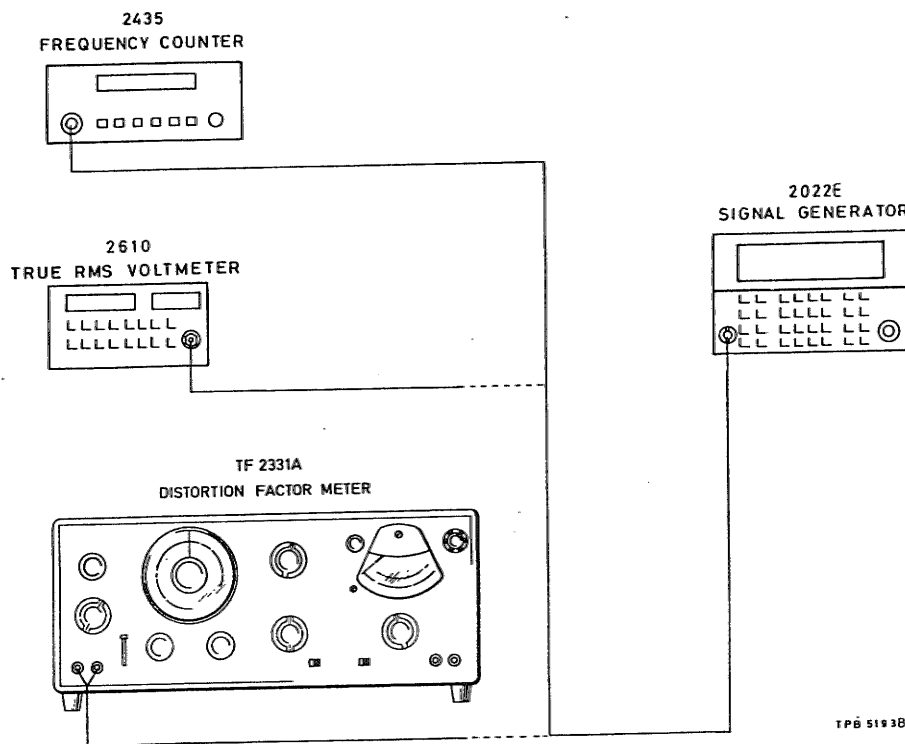

Fig. 5-4 Test gear arrangement to check Mod. osc. performance
(1) Connect test equipment as shown in Fig. 5-4 and set the 2022E controls as follows:-